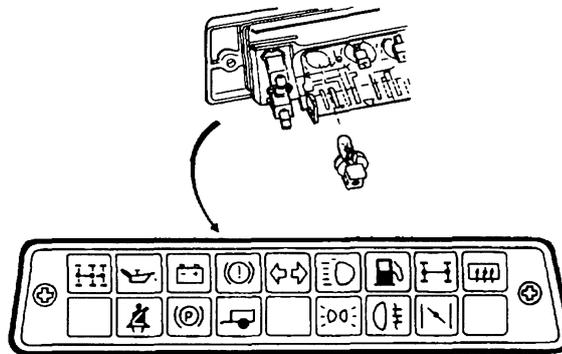

Figure 193 Warning Light Module Removal
- b.** Remove the two screws retaining the warning light module to the instrument panel (Figure 193).